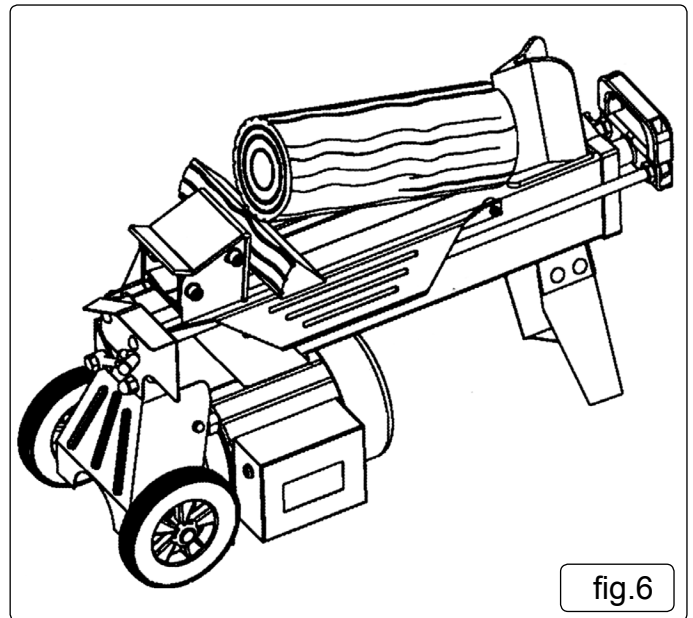

fig.6
- 6.9. When a log becomes jammed allow the log pusher to return to the start position. Place a wedge under the jammed log and push the wedge with the log pusher as shown below in fig.6. Repeat the process with progressively larger wedges until the log is freed.